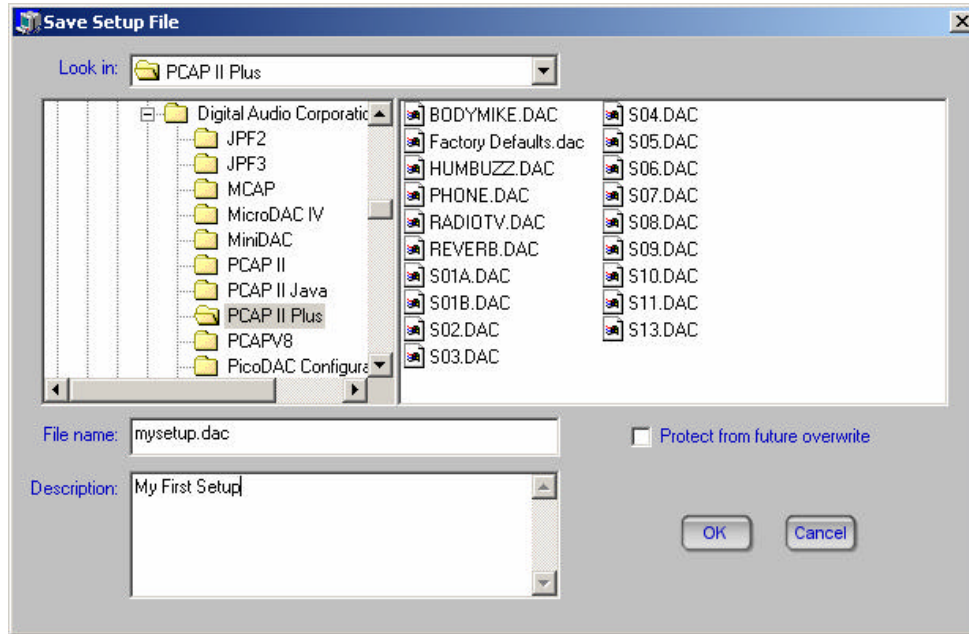

Figure 3-17 Tutorial Store in File Name Text Box
57. Click your mouse cursor on the **Description** text box. Using your keyboard type in “My First Setup”. See Figure 3-17.
58. Now click your mouse cursor on the **File Name** text box. Use the left arrow key to move the cursor to just before the **.DAC** extension, then type “mysetup”. These entries should appear as in Figure 3-17.